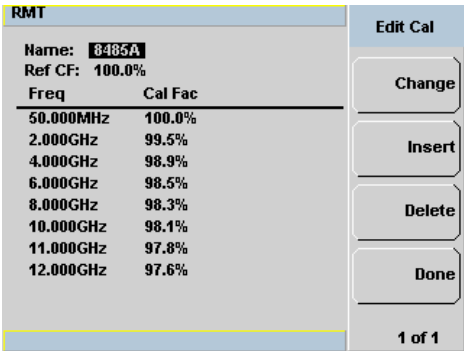

Figure 5-10 “Edit Cal” display
- 2 Choose the table you want to edit using the  and  keys. Press **Edit Table** to display the **Edit Cal** screen as shown in Figure 5-10.